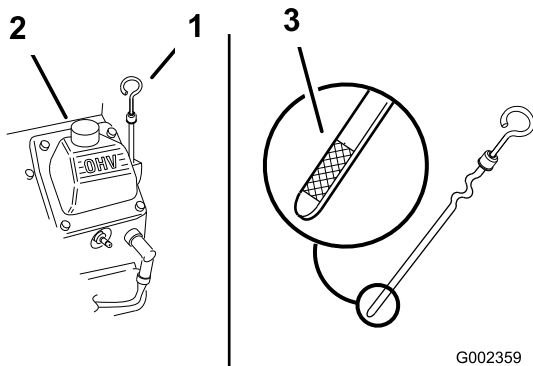

Figure 28
4. Clean around the oil dipstick (Figure 28) so that dirt cannot fall into the filler hole and damage the engine.
5. Unscrew the oil dipstick and wipe the end clean (Figure 28).
6. Slide the oil dipstick fully into the filler tube, but do not thread onto tube (Figure 28).
7. Slowly pour approximately 80% of the specified oil into the filler tube (Figure 28).